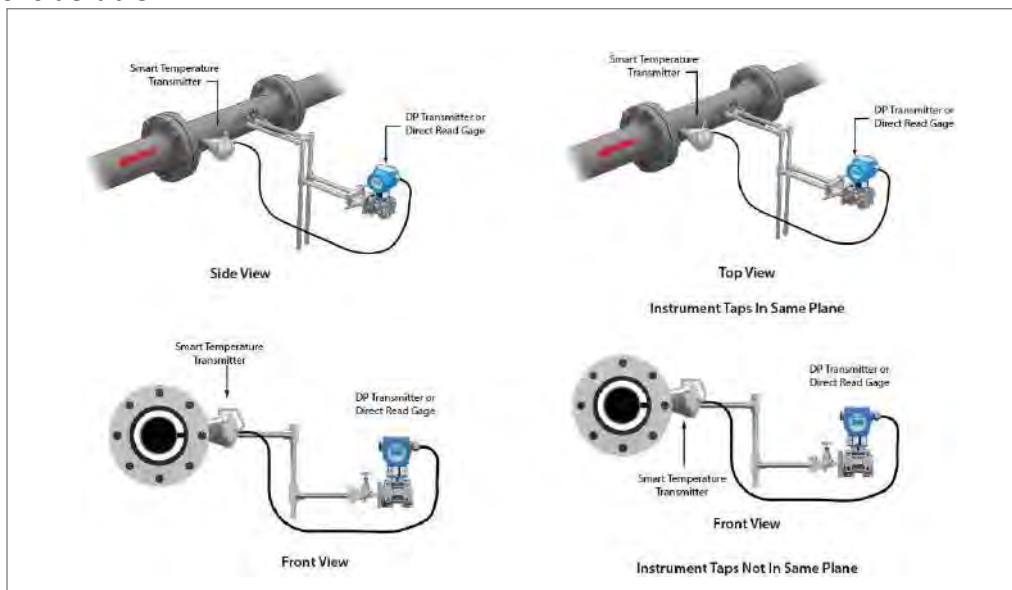

Fig 32: Horizontal Installation for Steam
- There is a concern that before the lines fill with condensed liquid and cool, the secondary system will become exposed to the vapor temperature at start-up. In this case, it is wise to have a plugged tee fit in the impulse line to allow the liquid (water for steam service) to be filled with the impulse line and secondary unit before starting up (see Figure 32).